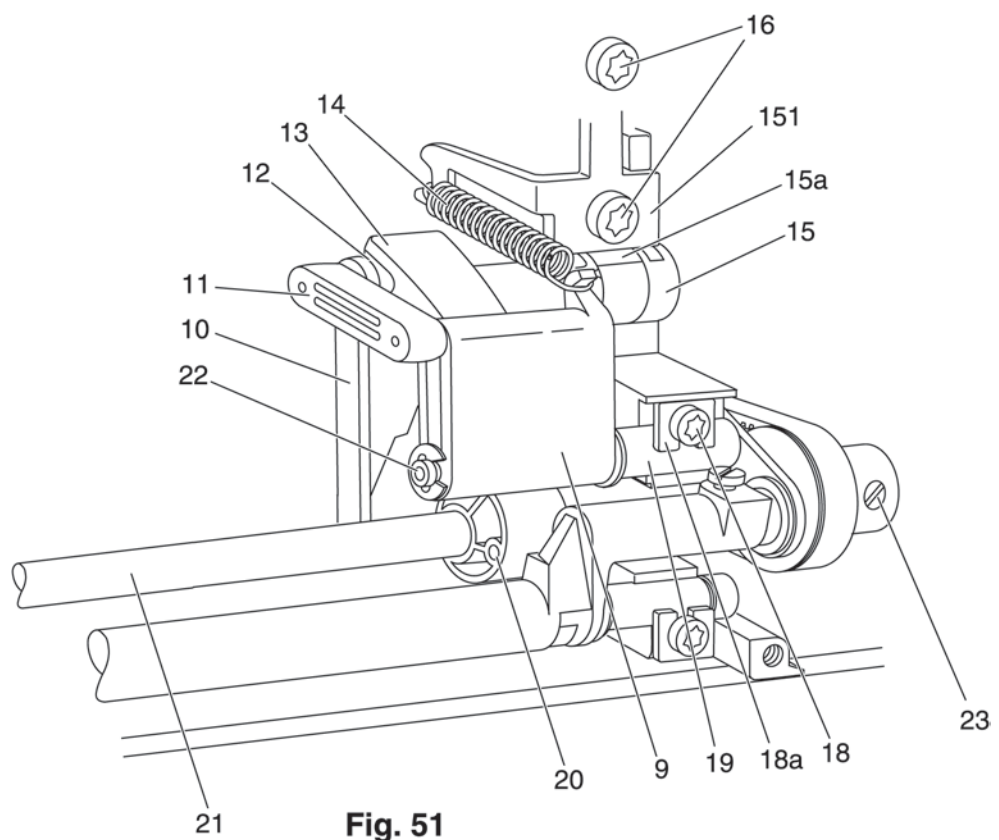

Fig. 51
- Remove tension spring 14 (fig. 51).